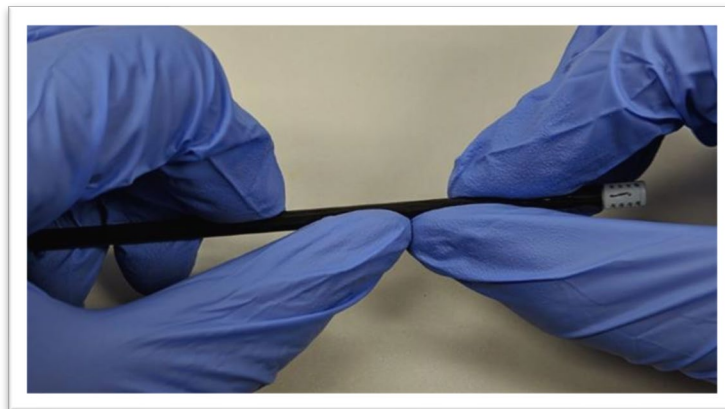

Figure 5: Proper Bending Technique
15. Holding the stylus shaft with both hands, slowly bend in the direction the electrodes are facing to the desired angle at the desired bend location (see **Figure 5**). **Do not hold the tip while bending the Stylus as damage can occur.**